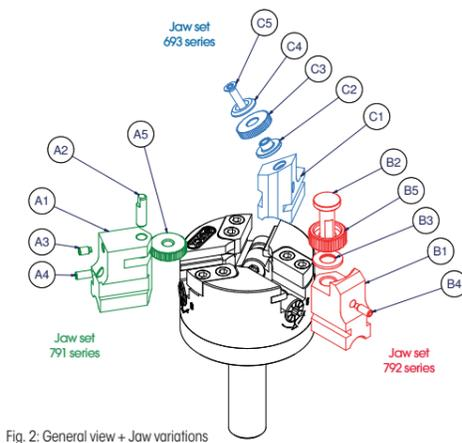

Fig. 2: General view + Jaw variations
Replace the axle pin (Fig. 2, Pos. A2), shoulder bolt (Fig. 2, Pos. B2), knurling wheel (Fig. 2, Pos. A5 + Pos. B5 + Pos. C3), bearing bush or race (Fig. 2, Pos. C2 + Pos. B3) and countersunk screws (Fig. 2, Pos. C5) and knurling wheels (Fig. 2, Pos. A5 + B5 + C5) after an appropriate number of cycles – no later than upon appearance of significant wear or deviating process parameters.
- If the screws loosen with use of the C693 series (Fig. 2, Pos. C5) during the process, use of Loctite is highly recommended.
Loosen the threaded pin (Fig. 2, Pos. A3) and screw in the rear threaded pin (Fig. 2, Pos. A4) so that the axle pin (Fig. 2, Pos. A2) can be removed. Then, change the knurling wheel (Fig. 2, Pos. A5) and fix it with the axle pin in the groove.
Loosen the threaded pin (Fig. 2, Pos. B4) and remove the shoulder bolt (Fig. 2, Pos. B2) and knurling wheel (Fig. 2, Pos. B5) and race (Fig. 2, Pos. B3). Fit the new knurling wheel with race on the shoulder bolt and clamp it with the threaded pin in the knurl holder. Align the clamping surface of the shoulder bolt so that it is tensioned by the threaded pin.
Completely loosen the lock screw (Fig. 2, Pos. C5) and remove the washer (Fig. 2, Pos. C4) and knurling wheel (Fig. 2, Pos. C3) and bearing bush (Fig. 2, Pos. C2). Then fit a new knurling wheel on the bearing bush and tighten screw it together with the jaw (Fig. 2, Pos. C1) with the lock screw.